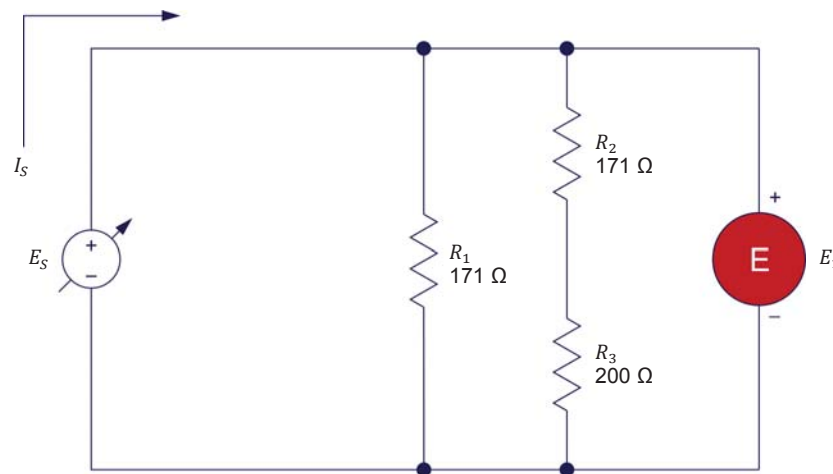

Figure 22. Determining the equivalent resistance of resistors connected in series-parallel (case 2).
- 18.** Set up the series-parallel circuit shown in Figure 22. To obtain the resistor arrangement of Figure 22, make the necessary connections and switch settings on the Resistive Load module.
- 19.** Calculate the equivalent resistance $R_{Eq.}$ of series-parallel resistors R_1 , R_2 , and R_3 in Figure 22.